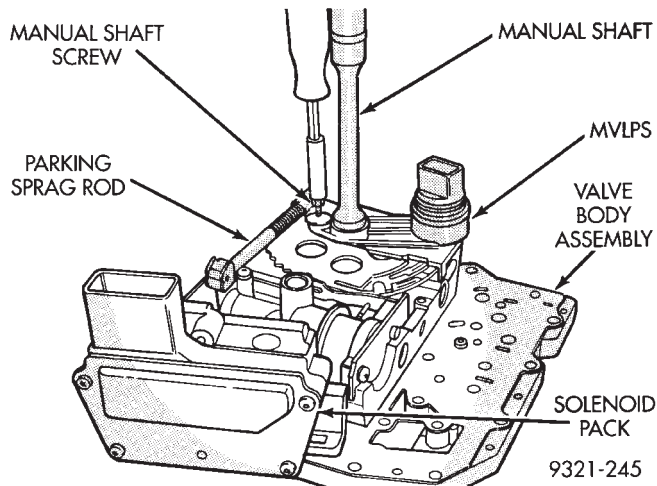

Fig. 67 Manual Shaft Screw
- (1) Remove manual shaft screw (Fig. 67).